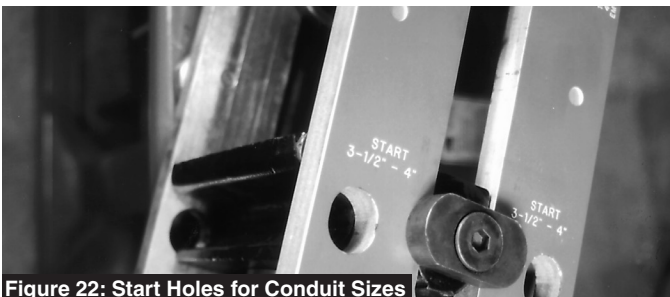

Figure 22: Start Holes for Conduit Sizes
1. The cylinder mounting block has a groove along each side to accept the double anchor pin. Move the hydraulic cylinder until the grooves in the mounting block are aligned with holes in the frame. The numbers next to the holes must agree with the conduit size being bent. Figure 22.